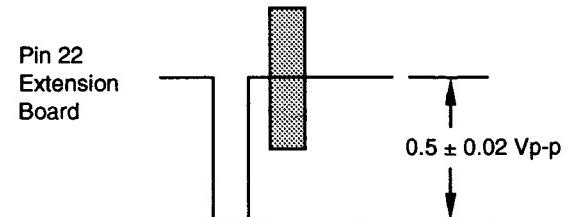

Fig. 4-2-14
- Adjust VR2 so that the Sync level of the Gen-Lock signal becomes 0.5 ± 0.02 Vp-p as shown in the Fig. 4-2-14.